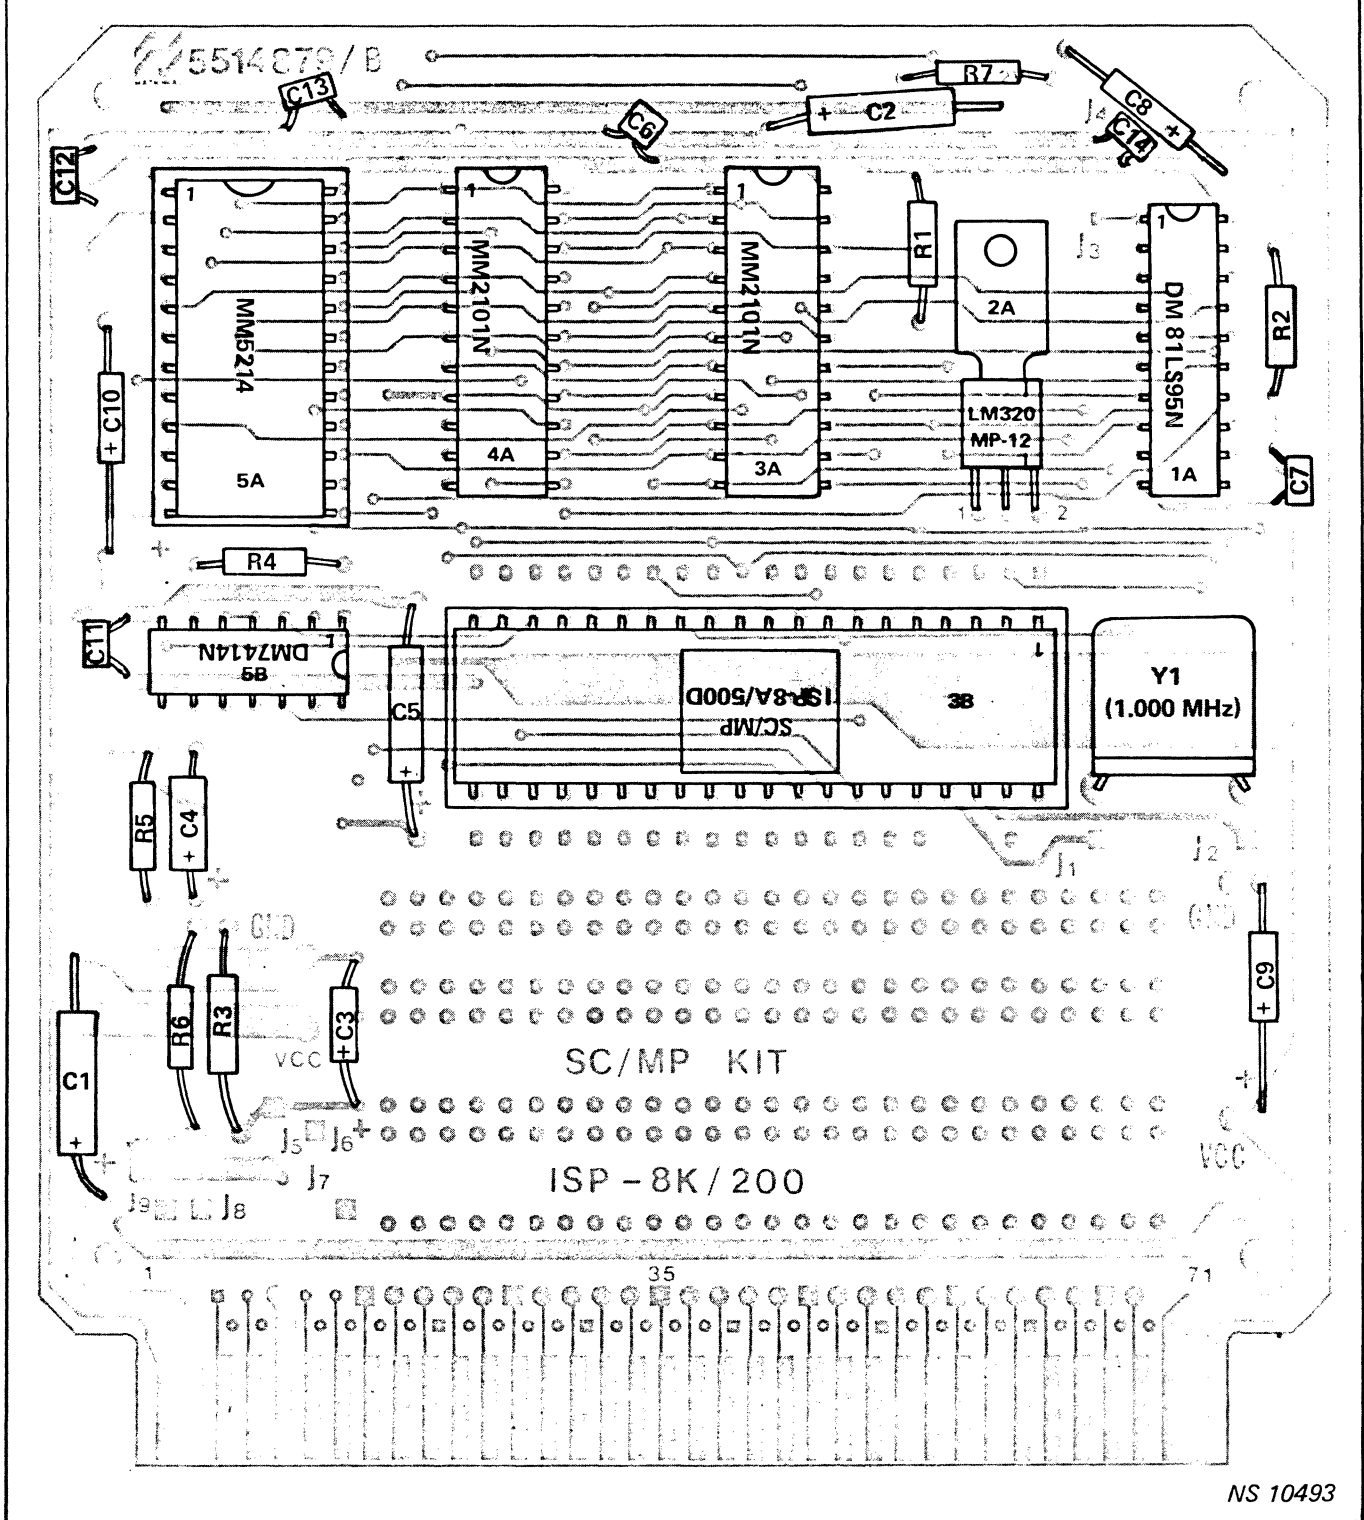

Figure 2-1. SC/MP Kit Component Locations
All of the SC/MP signals are available at "stake holes" on the card: the desired signals can be easily wired to the edge-connector pins, thus allowing complete flexibility in designating the connections to the card-edge. The stake holes are located along each side of the SC/MP chip next to the holes in which the chip itself is mounted and can be seen in figure 2-1. On the kit schematic (figure 2-2), the stake holes are indicated by the small square boxes located on the SC/MP signal lines adjacent to each SC/MP pin. The TTY interface signals, the Reset input signal, and the power inputs are already wired to the card-edge pins. The pin assignments for these signals are shown in figure 2-2.
Once the parts are counted and identified, they can be mounted on the board and soldered in place. It is recommended that components be installed in the following sequence:—first, all discrete parts (capacitors and resistors); next, all integrated circuits; and last, crystal Y1. (A piece of double-sided foam tape is supplied with the kit and should be placed between the printed circuit board and the case of the crystal to prevent accidental grounding of the crystal.) This order of assembly allows the board to be relatively flat during all soldering operations. The layout of the printed circuit board and mounted components are shown in figure 2-1. The figure provides explicit detail of where each component goes. To guarantee a successful job, the "DOs" and "DON'Ts" listed below must be followed to the letter. Figure 2-2 is a schematic diagram of the assembled kit.
- DO make certain that polarized capacitors are properly mounted. If a “+” does not appear on the case, the lead with the solder “blob” is positive. Where applicable, the “+” symbol is shown in figure 2-1.
- DO NOT solder an integrated circuit until the pin orientation matches that shown in figure 2-1—Pin #1 goes in the hole with the square pad. Pin #1 can be identified usually by a recessed dot adjacent to this particular pin; there is no identifying mark for other pins.
- DO NOT solder from the component side; once the leads are inserted in the proper holes (figure 2-1), turn the card over and fill the pad with molten solder. Then, neatly trim the excess lead length as flush as possible with the soldered connection. (Note: There is no need to trim the integrated circuit or socket leads.)
The values and electrical locations for these optional user-supplied capacitors (C9-C14) are shown on the kit schematic (figure 2-2). The corresponding physical locations are shown in figure 2-1.